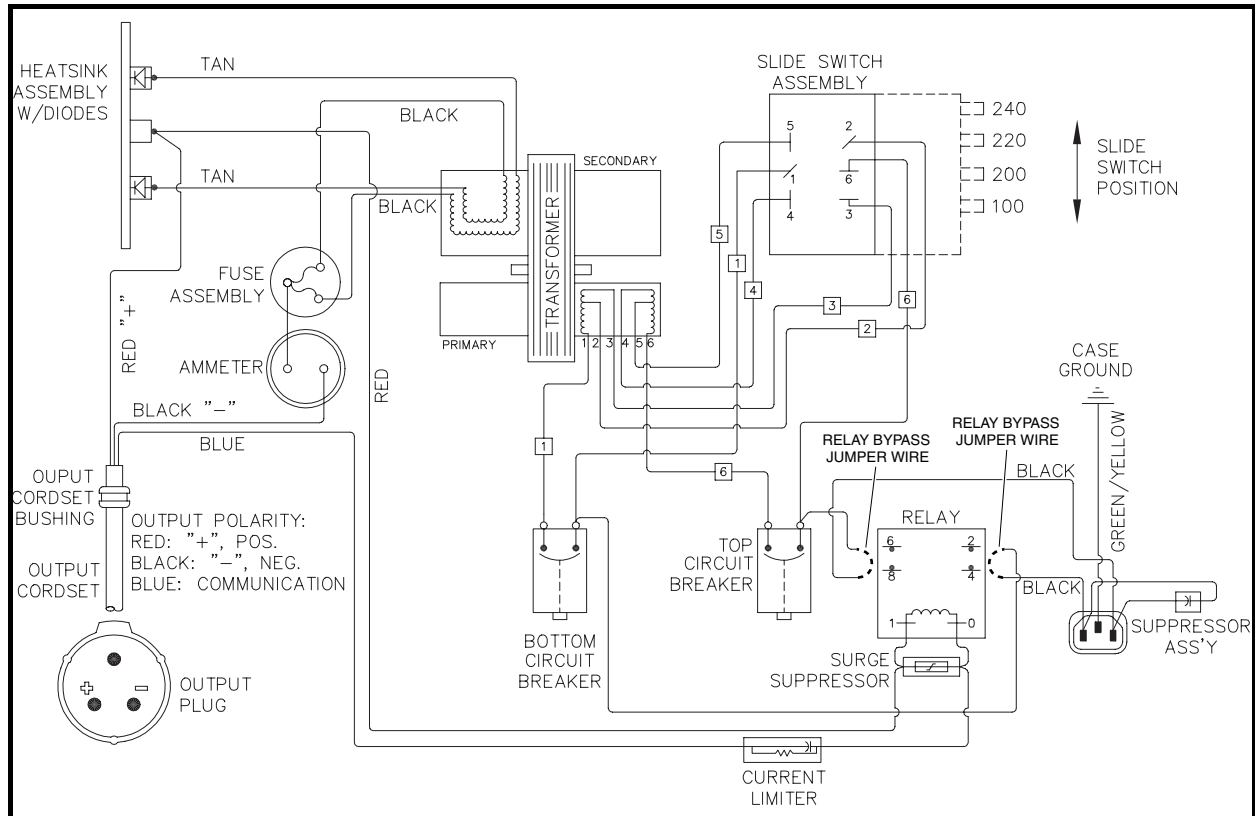

Figure 5-22 Export IQ Plus Charger Wiring Diagram (Relay Bypassed)
- 4.1. To bypass the relay, locate the black wire that goes from the circuit breaker to terminal 2 on the relay. Disconnect the black wire from the relay terminal **(Figure 5-22, Page 5-35)**.
- 4.3. Use a jumper wire with alligator clips to connect the black wire from relay terminal 2 to the black wire from relay terminal 4 **(Figure 5-22, Page 5-35)**.
- 4.6. Use a jumper wire with alligator clips to connect the black wire from relay terminal 6 to the black wire from relay terminal 8 **(Figure 5-22, Page 5-35)**. **See following DANGER.**
8. Disconnect the jumper wires from the relay wires and connect each wire to the original terminal on the relay **(Figure 5-22, Page 5-35)**. **See following WARNING.**